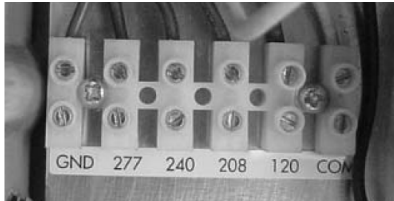

Figure 6 - Prewired Components
1. Loosen the six (6) captive floodlight cover screws on the door and completely open the cover. Remove the screw that secures the cover plate over the ballast housing. Be sure to retain the screw in a safe place.
2. Ensure that line power is not connected to the SOW cord. Be sure to strip the insulation from the wires of the SOW cord for termination. Notice that all components in the ballast assembly area are prewired. You will only need to wire line power to the terminal block and ground wire. See Figure 6.